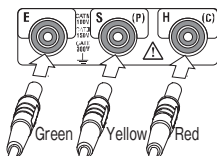

Fig. 7-2
(1) Connection
Stick the auxiliary earth spikes S(P) and H(C) into the ground deeply. They should be aligned at an interval of 5 - 10 m from the earthed equipment under test. Connect the green wire to the earthed equipment under test, the yellow wire to the auxiliary earth spike S(P) and the red wire to auxiliary earth spike H(C) from terminals E, S(P) and H(C) of the instrument in order. See Fig. 7-2 and 7-3.